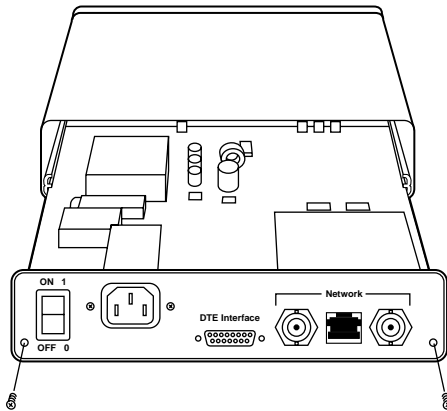

Figure 3-3. Opening the MicroNTU's case.
- 3) Remove the two screws on the rear panel and slide the board out from the rear (see Figure 3-3, on the next page).